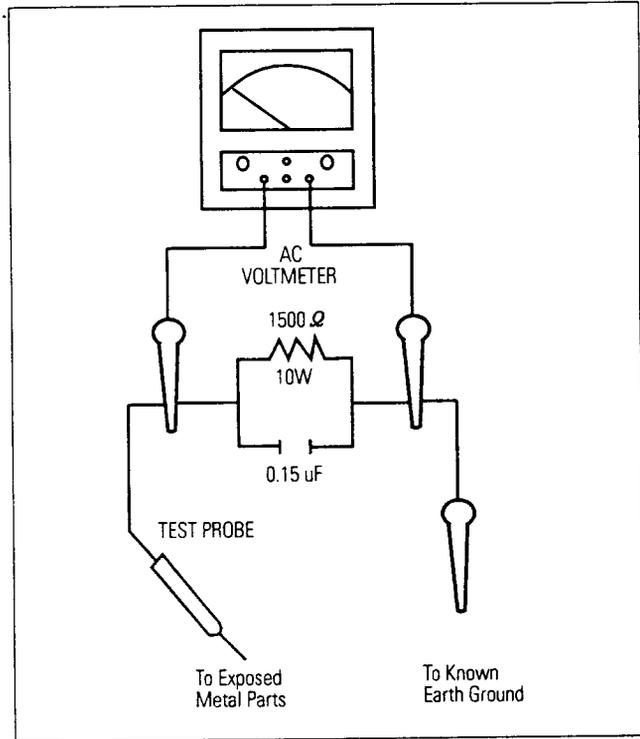

Figure1. Leakage Current Test Circuit
- ① Plug the AC line cord directly into an AC 100-120/22-240 Volt outlet. (Do not use an isolation transformer for this test)
- ② Using two clips leads, connect 1.5 kohm, 10 watt resistor paralleled by a 0.15 uF capacitor in series with all exposed metal cabinet parts and a known earth ground, such as electrical conduct or electrical ground connected to earth ground.
- ③ Use a SSVM or VOM with 1000 ohms per-volt or higher sensitivity to measure the AC voltage drop across the resistor. (See Figure 1.)